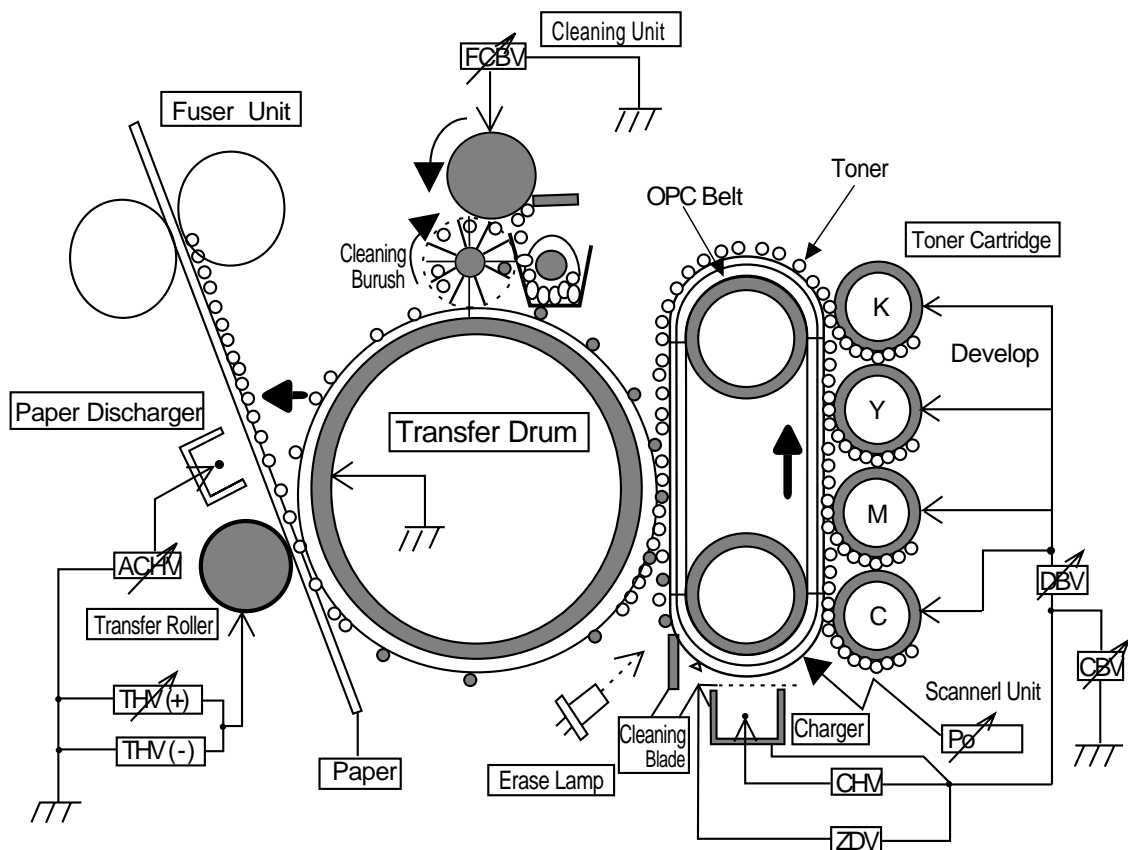

Fig.4-9
(1) Process of Print System (See Fig.4-9.)
- i) The OPC belt is biased to the voltage -CBV(V) by the power supply CBV.
- iii) The developer magnetic roller of the toner cartridges is biased to -DBV(V) by the power supply DBV.